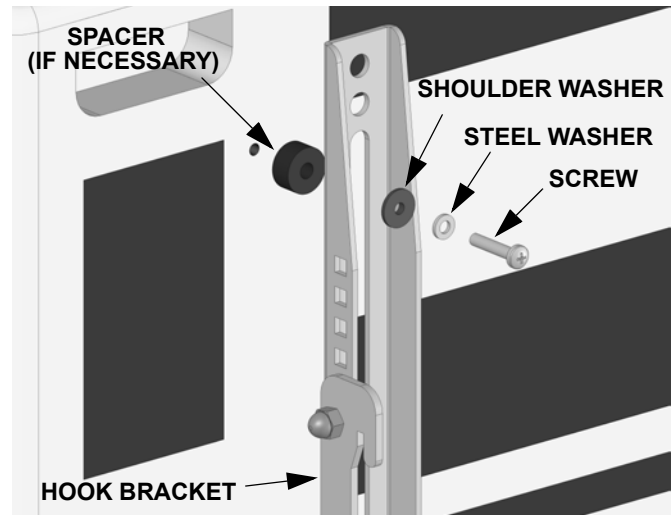
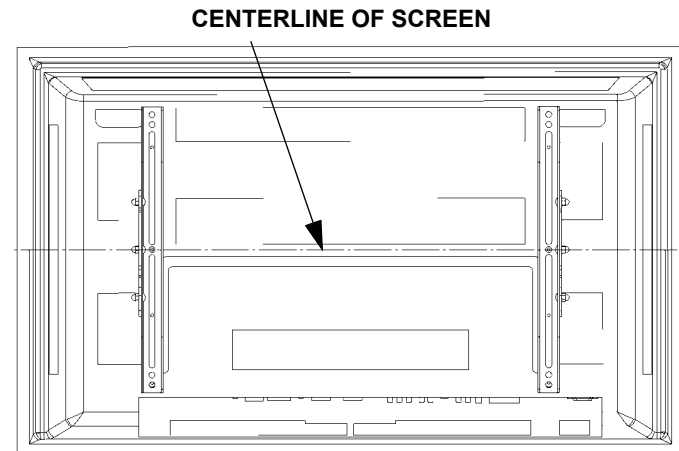

Figure 10. Interface Bracket Attachment
Figure 11. Center Line of Display
1. Place the left and right interface bracket assemblies (with hook brackets) on the back of the display (see Figure 11).
2. Position the interface bracket assemblies with the hook brackets faced toward the outside of the display (see Figure 10).
3. Using the center hole on the interface bracket as a reference point, align the bracket with the center line of the display (see Figure 11).
4. Secure the left and right factory assembled interface bracket assemblies (20 and 30) to the display. Select the mounting hardware that fits your application. Read the following list and refer to Figure 10.
- Use M6 screws (70 or 80) or M8 screws (40, 50, or 60), steel washers (160), and shoulder washers (200).
- Or, use M4 screws (120, 130, or 140) or M5 screws (90, 100, or 110) steel washers (150), and shoulder washers (190).
5. Find the center line of the display (see Figure 11).